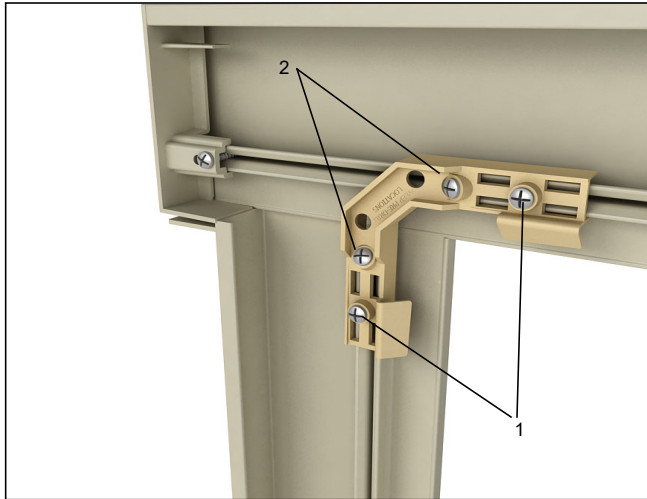

Figure 31
4. Fasten the corner key with included screws. First apply the outside 90° screws (1) followed by the two inside angled screws (2). Fasten until joints are tight. Over tightening may cause screw channel to strip out. See *figure 31*.